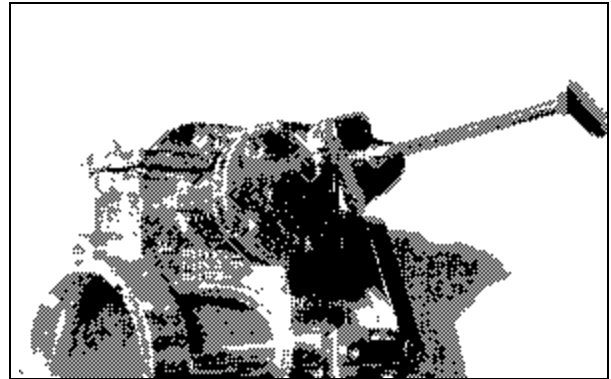

Figure 3 - Throttle Cable Clamp
3. Loosen the right-hand cable clamp by loosening the 8-32 x 3/8" cap screw on the left side of the cable bracket (See Fig. 3).